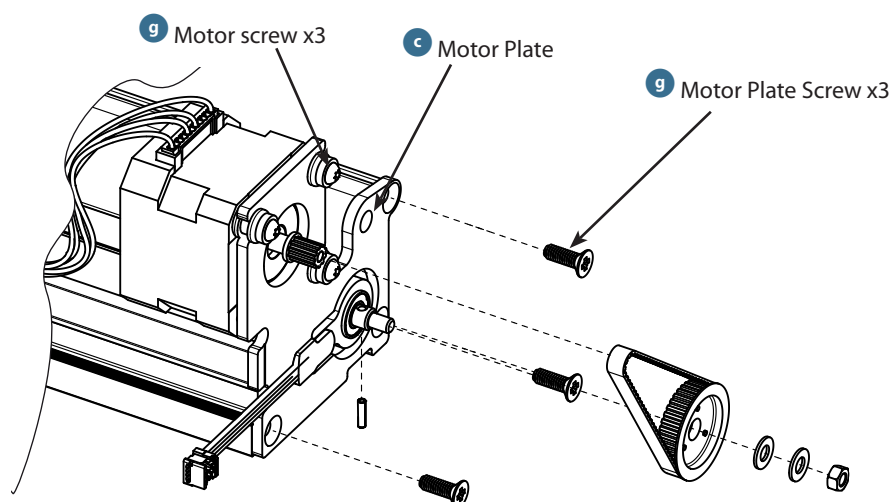
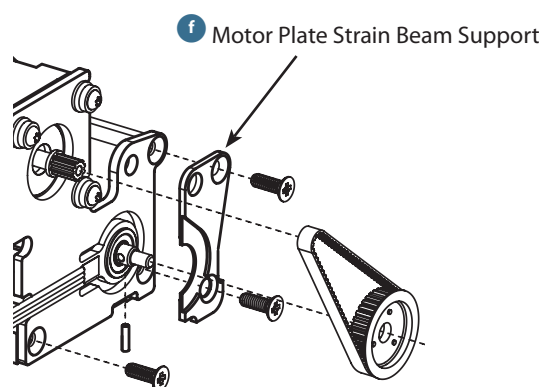

Figure 1 - Current Motor Plate
Figure 2 - Motor Plate Strain Beam Support
**Check motor plate serial number, if code is numeric barcode or is alphanumeric beginning with prefix "PH", then this is the current version of motor plate. The current version of motor plate does not require the motor plate beam support (see Figure 1). All other versions of motor plate require the motor plate beam support (see Figure 2).**